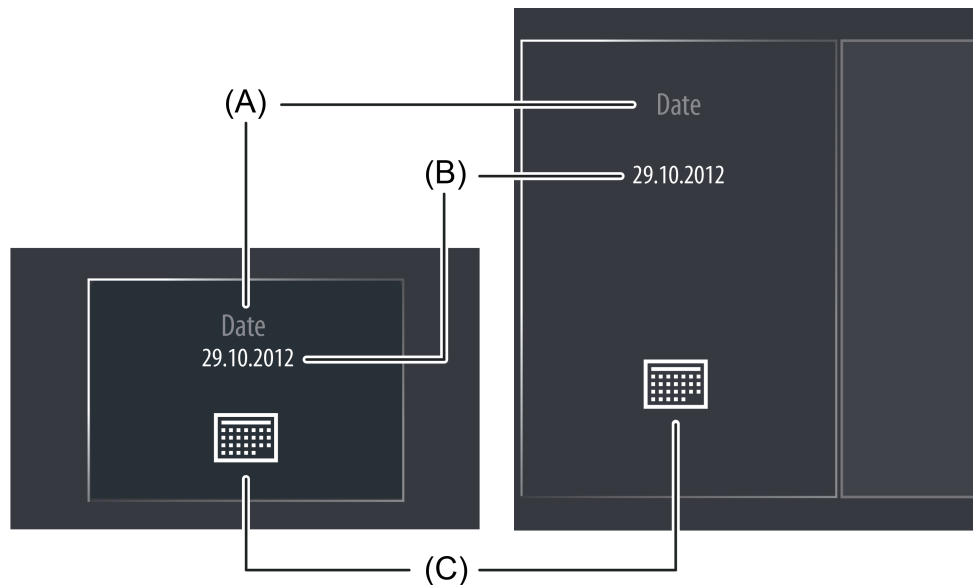

Figure 46: Example of a display element of the function "KNX Date"
The display area contains different display elements (figure 46) that are influenced by parameters. A name can be assigned to each KNX function in the configuration software (A). This text name is centred in the display element for display whereby controllable KNX functions are identified for the user (e.g. "Date"). The date (B) is displayed below this. The parameter "Date display format" defines the format of the display element and makes it possible to adapt the date display to international systems. A calendar icon (C) is statically displayed in the lower display area.